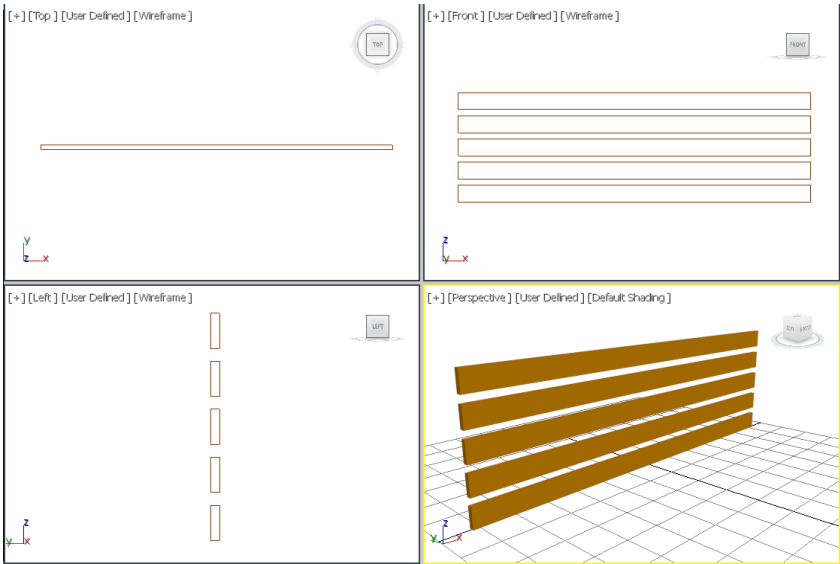

Figure 2-69 Horizontal back supports displayed in viewports
- 8. Choose the **Zoom Extents All** tool from the viewport navigation controls; the horizontal back supports are displayed in the viewports, as shown in Figure 2-69.